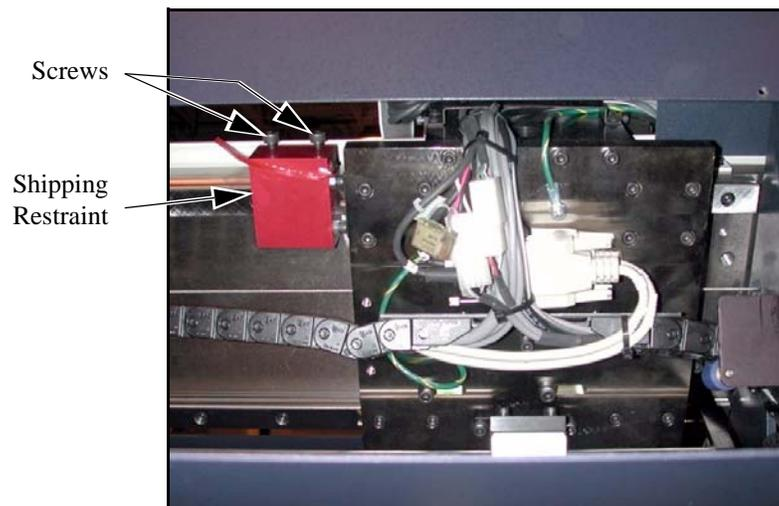

Figure 4-4 Removing the X-Axis Shipping Restraint (Rear View)
1. Go to the back of the machine and open the rear bridge cover with a Phillips-head screwdriver. Locate the red shipping restraint that is attached to the X-axis rail (see Figure 4-4).
2. Use a 3/16-inch Allen wrench to **loosen** (do not remove) the four socket-head cap screws (see Figure 4-4) that secure the shipping restraint to the rail. Remove the shipping restraint and set it aside.